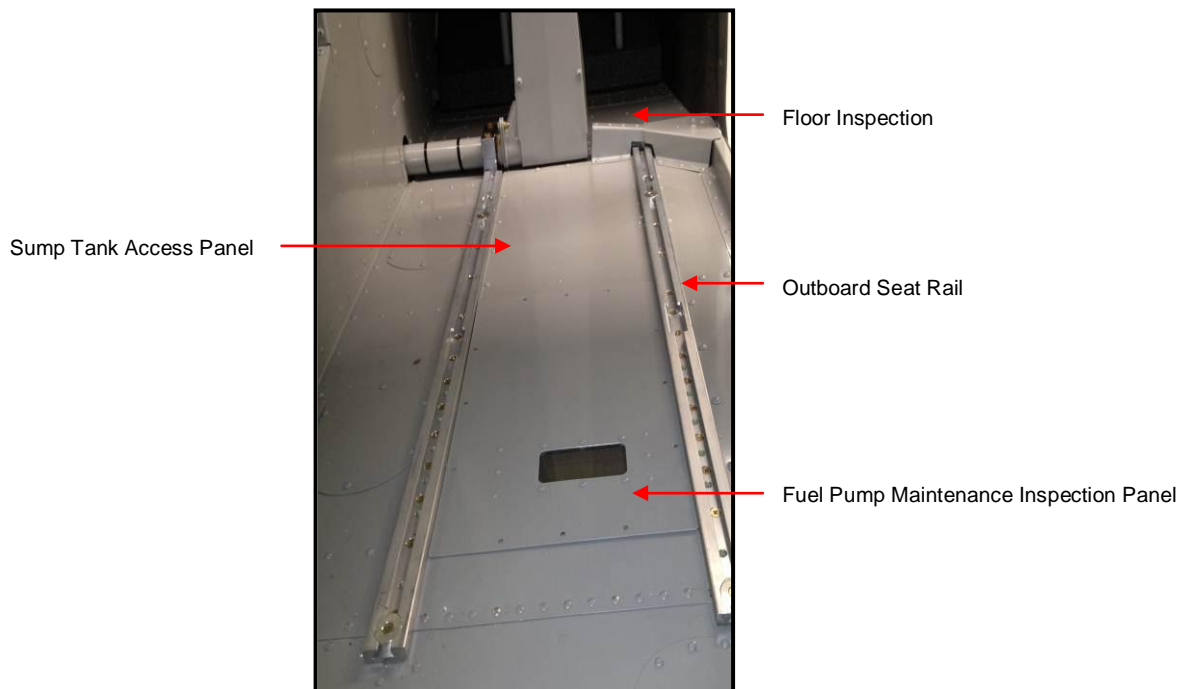

Figure 2
1. Remove co-pilot seat from aircraft cabin and stow, Figure 2.